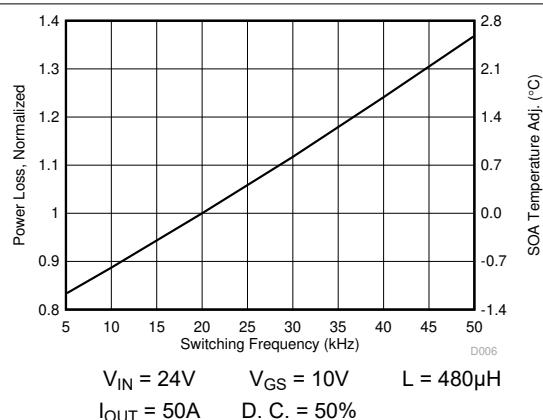

图 4-4. Normalized Power Loss vs Switching Frequency
- Normalized power loss for switching frequency \approx 1.24 (图 4-4)
- SOA adjustment for switching frequency \approx 1.7°C (图 4-4)